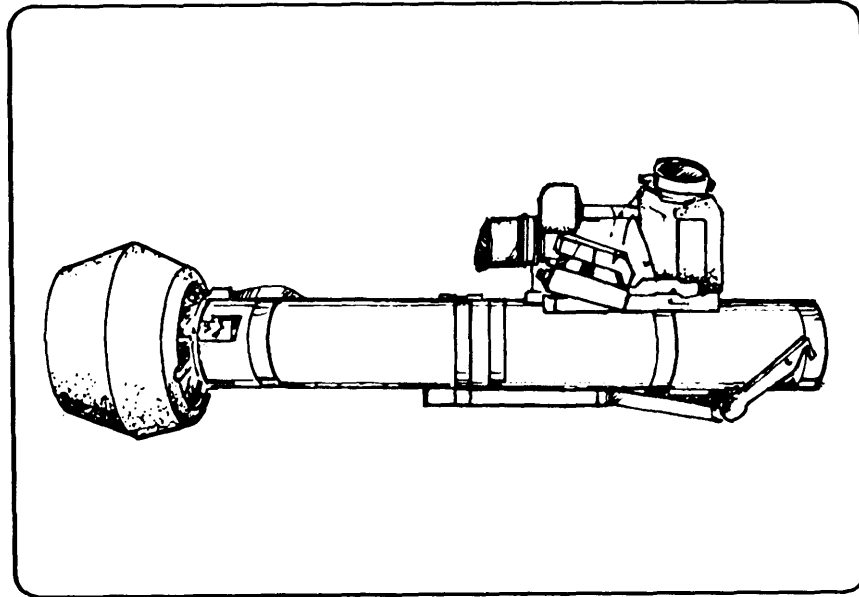

Figure 7-7. Prone firing configuration.
- (1) The round is ready to fire with the biped collapsed, the tracker mounted, and the front shock absorber removed. (Figure 7-7).
- (2) Place the body at a 90-degree angle to the launcher to remain outside the backblast area.
- (3) Lay the launcher across the right bicep with the biped on top of the bicep. Encircle the round with the right arm so the right hand can grasp the firing mechanism.